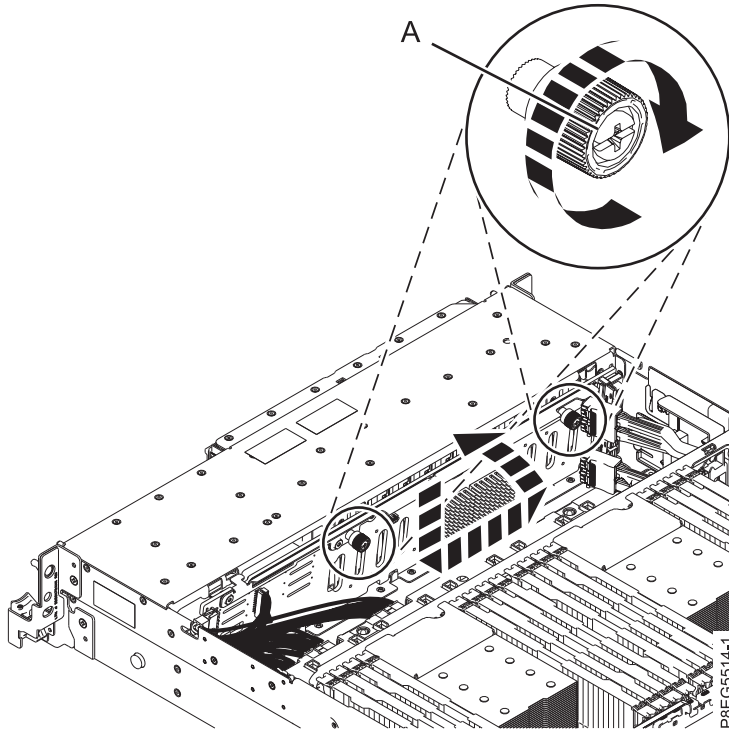

Figure 141. Replacing the disk drive backplane
- c. Shift the backplane slightly to the left to secure it in place, as is shown in Figure 141 on page 142.
- d. Carefully tighten each of the disk drive backplane's captive thumbscrews (A) until each one is secured to the system's chassis.